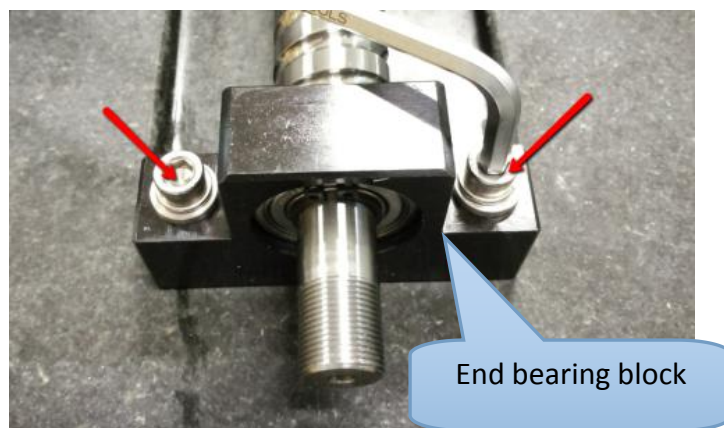

Figure 29 End bearing block
31. Hand tight 2 x Screws at End bearing block (Locate nearby rear access door) as below Figure 29.